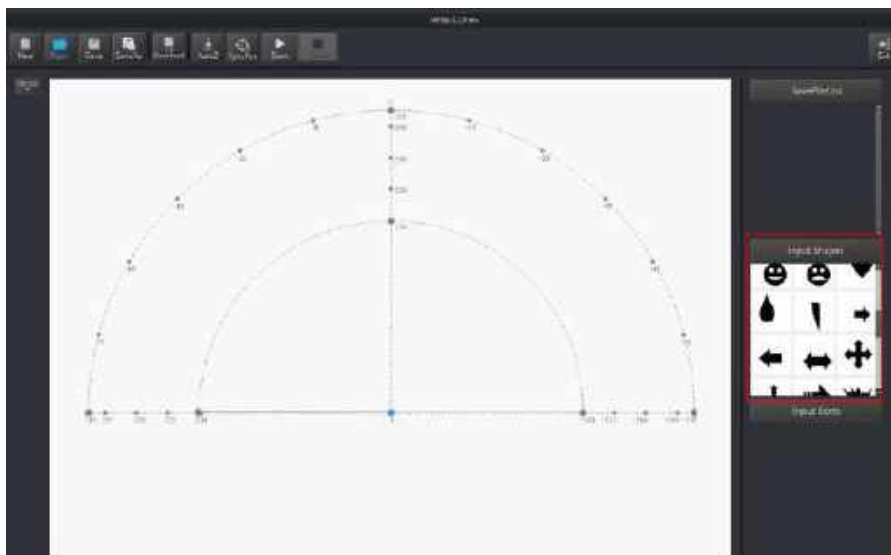

Figure 5.41 Insert a system image file
- Click a shape in the **Input Shapes** area, as shown in Figure 5.41.